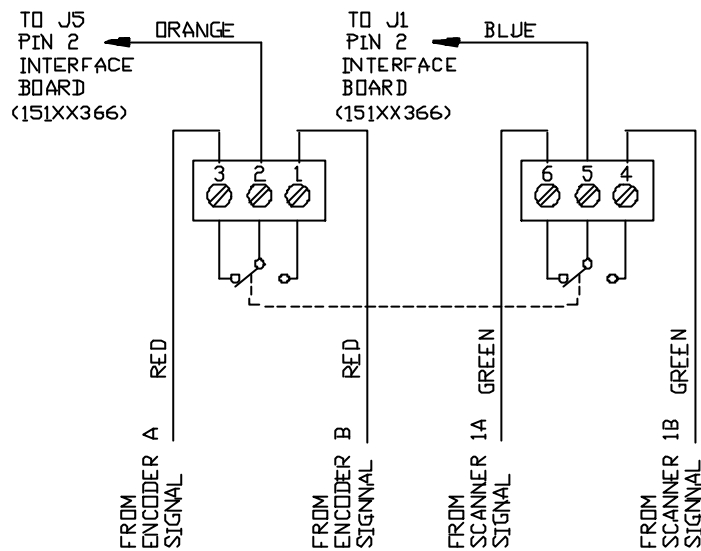

Figure 11. Wiring Diagram for Optional A-B Switch
**Note!** An optional encoder/scanner A-B switch is available to enable one of two possible encoder/scanner pairs. This switch mounts to the base plate (Figure 11).